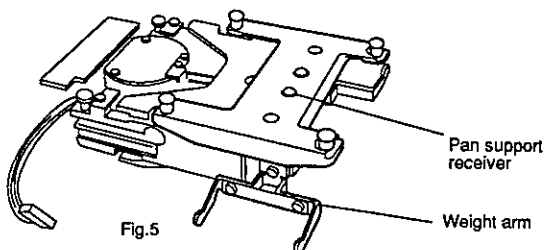

Fig.5
- Step 5** Remove the weight arm. (Fig. 5)
- Step 6** Remove the pan support receiver. (Fig. 5)